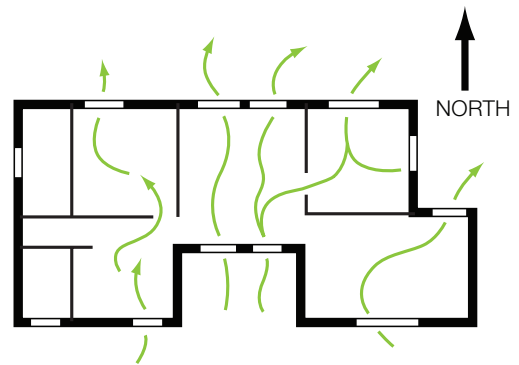

Figure 11: Cross-ventilation can provide most of your summer cooling needs
- > Place openable windows and external doors on different sides of the home. Keep paths short and direct (less than 8 m) to encourage cross-ventilation (see Figure 11).